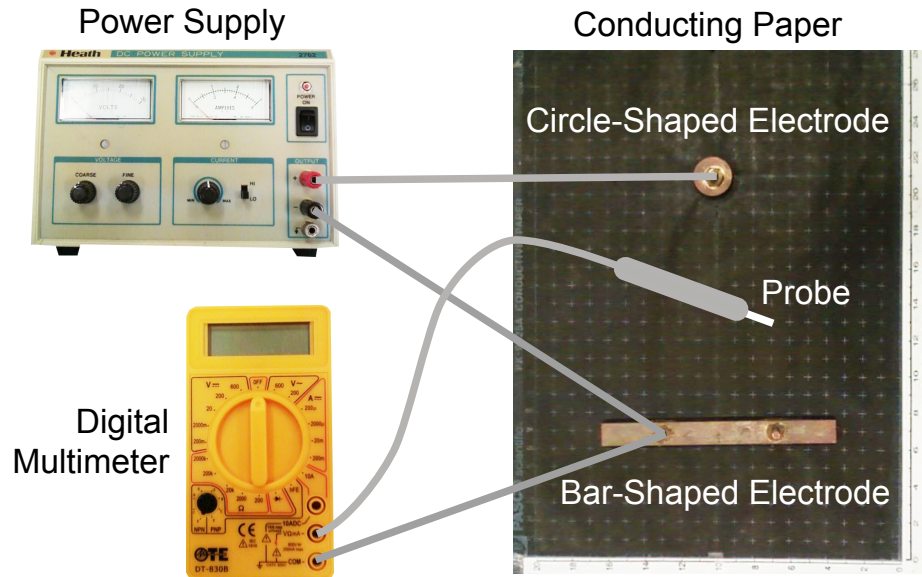

Figure 2.1. Electrical connections.
2. Connect the positive terminal (red jack) of the power supply to the circle-shaped electrode on the conductive paper, as shown in Figure 2.1. This will produce a net positive charge on the circular electrode. Connect the negative terminal (black jack) of the power supply to the bar-shaped electrode on the conductive paper. This will produce a net negative charge on the bar electrode. Use “alligator clips” to connect the wires from the power supply to the electrodes. This configuration simulates the electric field between a positively charged rod and a negatively charged plate.
6. Now fine tune the adjustment of the power supply by: (1) touching the probe to the circle-shaped electrode, and (2) turning the FINE voltage control knob on the power supply until